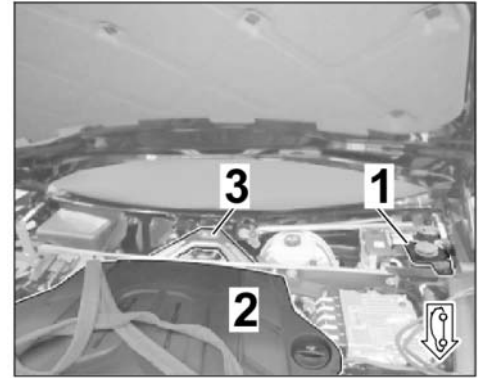

Figure 8
1.3 Expose plenum panel area ⇒ *Figure 8*